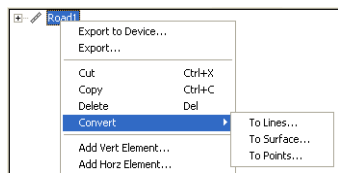

**Figure 9-39.** Edit the Name and Start Sta/Chainage of the Created Road
**Properties.** In the *Properties* dialog box, edit the start station/chainage number and start point (Figure 9-39).